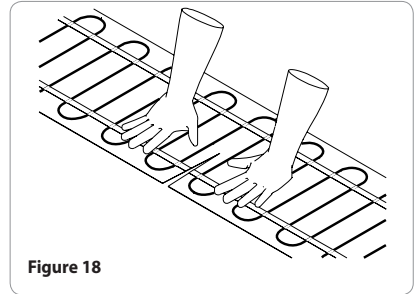

Figure 18
- If the mat ripples, score the center of the rippled section and flatten the edges (figure 18).